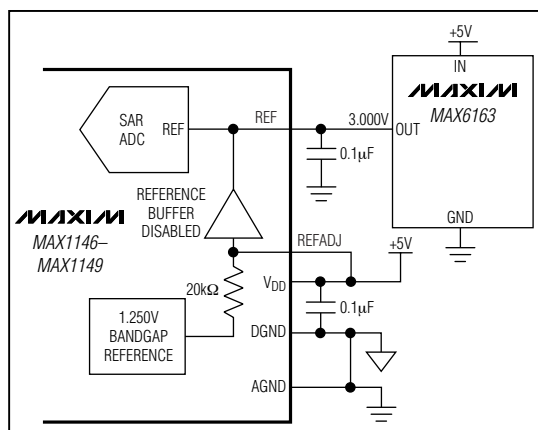

Figure 12. External Reference Applied to REF
- 1) Disable the internal reference buffer by connecting REFADJ to V_{DD} and apply the external reference to REF (Figure 12).